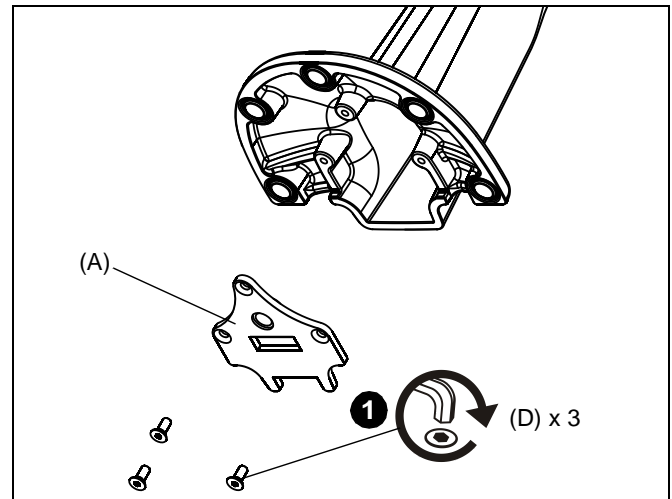

Figure 4
1. Attach bracket grommet plate (A) to desk mount using three M4 x 10mm flat head cap screws (D). (See Figure 4)